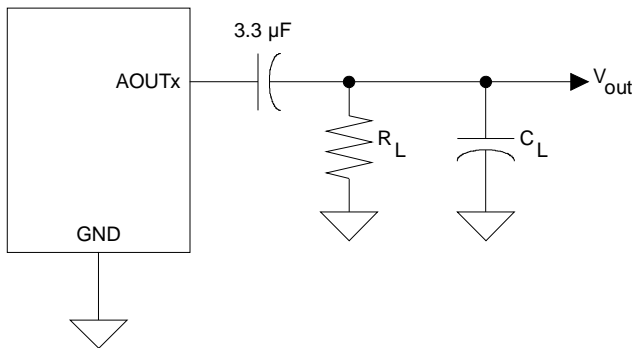

Figure 1. Equivalent Analog Output Load
- See Figures 1 and 2 on page 19.  $R_L$  and  $C_L$  reflect the minimum resistance and maximum capacitance allowed in order to maintain stability in the internal op-amp.  $C_L$  affects the dominant pole of the internal output amp; increasing  $C_L$  beyond 100 pF can cause the internal op-amp to become unstable.